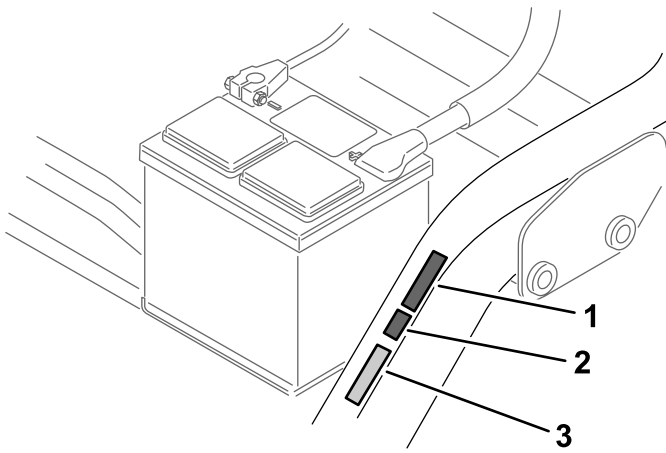

Figure 15
- Apply the CE mark decal next to the serial plate (Figure 15).
- Apply the CE production year decal next to the CE mark decal (Figure 15).